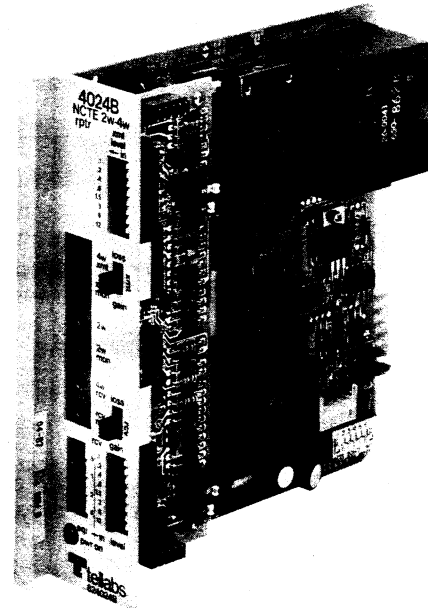

figure 1. 4024B 2Wire-to-4Wire Repeater (24V4) Network Terminating module
1.01 The Tellabs 4024B 2Wire-to-4Wire Repeater Network Terminating Module (figure 1) provides active level control and impedance matching between a 4wire and a 2wire voice-frequency transmission facility and also provides amplitude equalization in the 4wire receive path. In effect, the single 4024B module functions both as a line amplifier and as a terminating set, and is commonly referred to as a 24V4-type repeater.